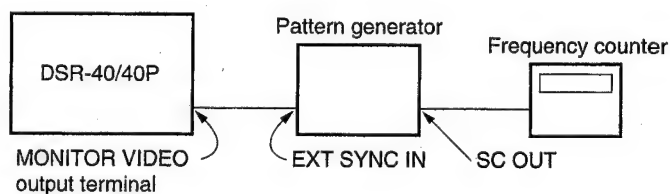

Fig. 5-3-36.
**Note 2:** Connection is refer to "Fig. 5-3-36".